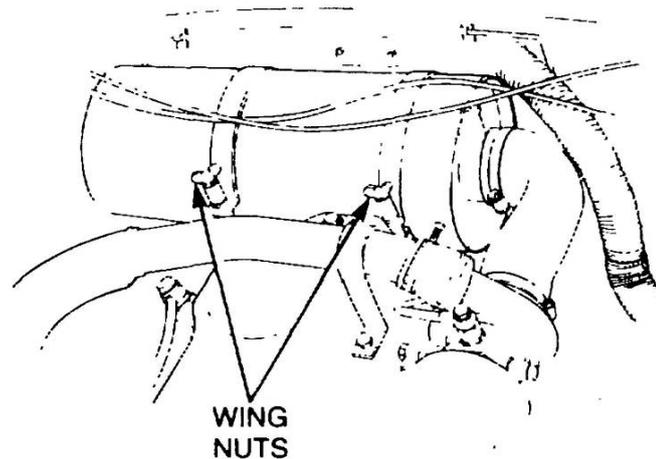

Figure 17 Removal of the Air Cleaner
- f. Remove the hose clamps securing the air inlet and outlet hoses to the air cleaner housing and disconnect the hoses. Remove the two wing-nuts from the clamp bolts (Figure 17) and carefully lift the air cleaner out of the mounting brackets.